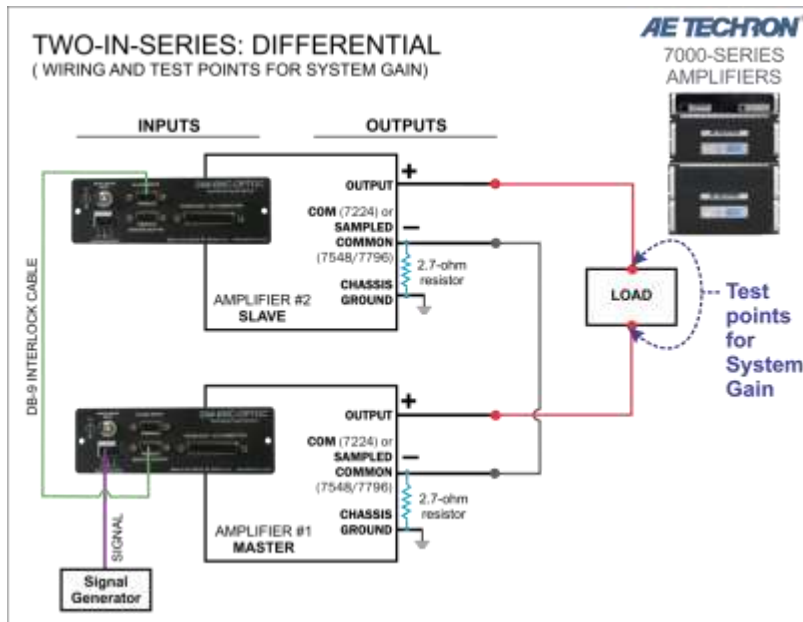

Figure 3.10 – Verifying System Gain
4. Apply a sine wave of 5 Vrms at 100 Hz at the Master amplifier input. Using a voltmeter, measure across the system load to verify an output from the system of approximately 200 Vrms. See **Figure 3.10**.